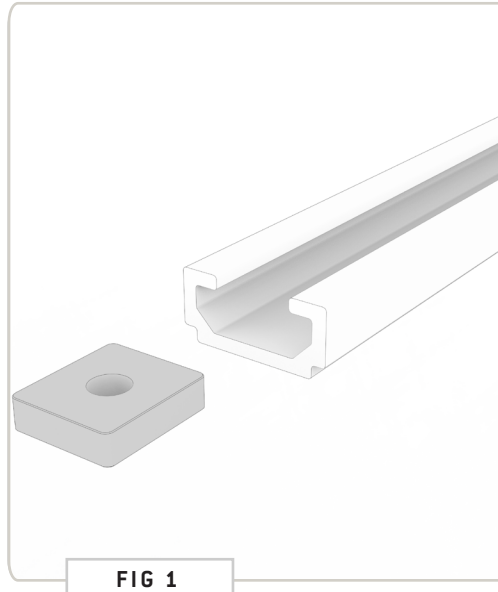

FIG 1
1.1 Install Rail Nuts: Slide (9) Rail Nuts into the passenger side factory roof rail (FIG 1), and (11) into the driver side rail. The extra two will be for either your Side Ladder or Side Ladder Access Cover.